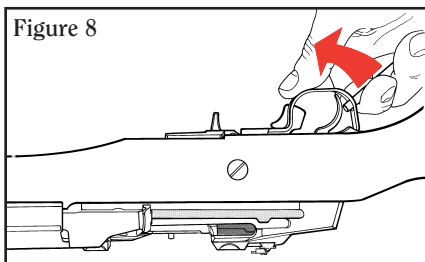

Figure 8
3. Use a 1/4" diameter steel rod, punch, screwdriver shank, or other suitable instrument inserted into the hole in the rear of the trigger guard as a lever to spring open the trigger guard from its latched position (See Fig. 8).